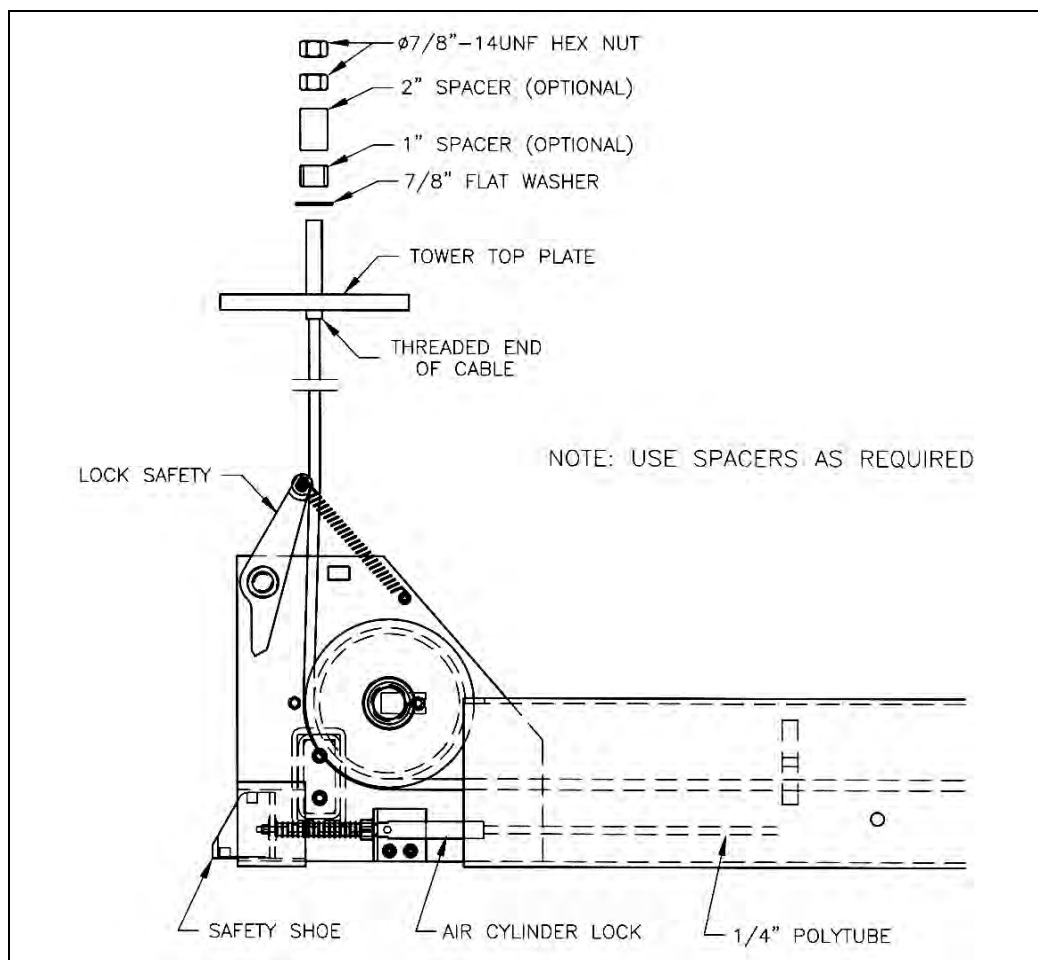

Figure 2. Cable routing diagram
8. Run each cable through the crossmembers and out past the safety lock (see Figure 2).
5. Replace all of the crossmember pulleys, being sure to lock the sheave pins with the 3/8"-16UNC x 1"LG Hex HD Bolt. Be sure to replace pulleys and spacers in the same arrangement as they were removed (see Figure 2 and the Parts Manual, Front Crossmember Assembly).
Install the threaded stud end of the cables to the tower top plates using the 7/8" Flat Washer, and two (2) 7/8"-14UNF Hex Nuts with Cable Spacers as required (see Figure 2). The Hex Nuts, Washers and Cable Spacers are located in polybag "A" (cables).